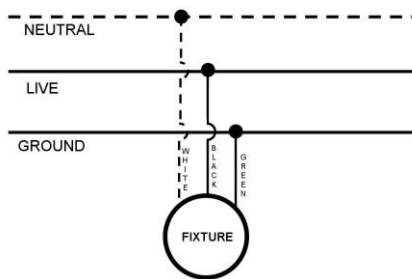

Figure 4: Wiring Diagram
4. Make all wire connections per local electric code. **See Figure 4**